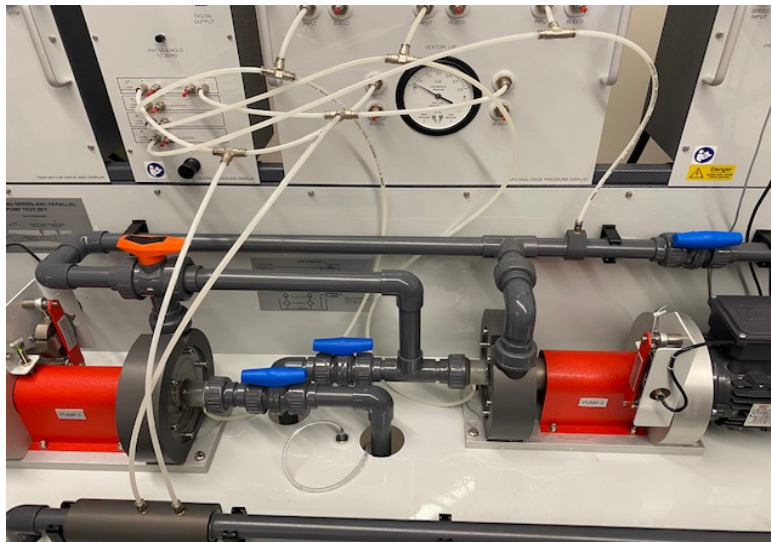

Figure 7. Parallel Pump Configuration
- c. Open both inlet valves and set the two-way valve to direct flow straight to the delivery pipe (see Figure 7). Fully open the delivery valve.